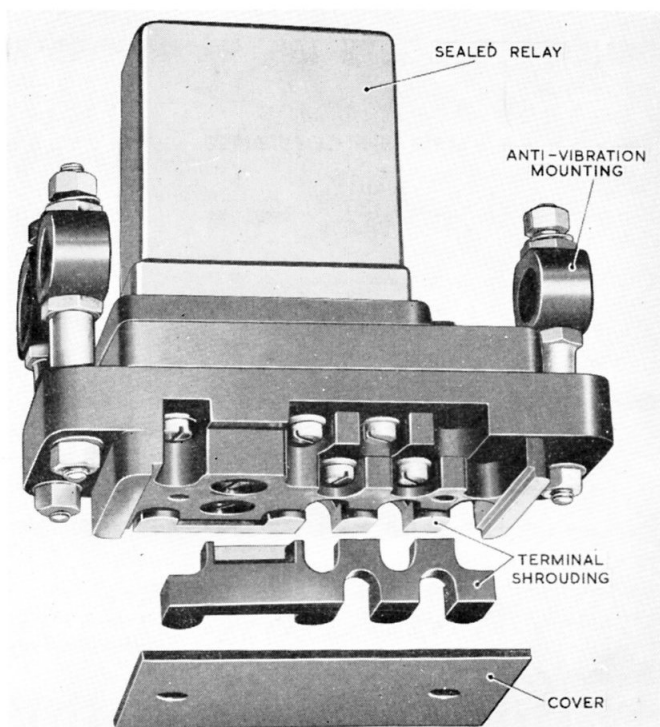

Fig. 1. Magnetic switch, Type 16B, No. 4
2. This switch (*fig. 1*) consists of a sealed relay, Type M1094 (Inter - Service Ref. Z530017) secured to a moulded Bakelite base plate having shrouded 6 B.A. terminals. The switch is designed for panel mounting, and is provided with three rubber anti-vibration mountings incorporating 4 B.A. fixing studs.